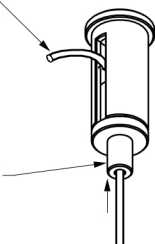
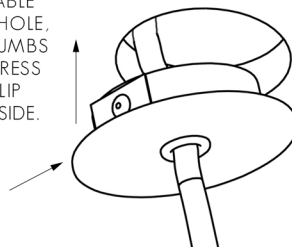

FIG. 4 - INSERT CABLE BASE IN TO CEILING
FIG. 5 - SCREW BRACKET TO CEILING, PUSH COVER ON
6. PUSH CABLE BASE INTO HOLE IN CEILING (SEE FIG. 4), OR FIG. 5 FOR SURFACE MOUNTED CABLE BASE.